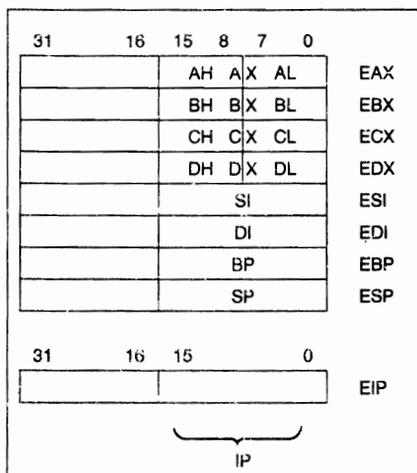

Figure 2-2. General Registers and Instruction Pointer
General Purpose Registers: The eight general purpose registers of 32 bits hold data or address quantities. The general registers, Figure 2-2, support data operands of 1, 8, 16, 32 and 64 bits, and bit fields of 1 to 32 bits. They support address operands of 16 and 32 bits. The 32-bit registers are named EAX, EBX, ECX, EDX, ESI, EDI, EBP, and ESP.
The instruction pointer, Figure 2-2, is a 32-bit register named EIP. EIP holds the offset of the next instruction to be executed. The offset is always relative to the base of the code segment (CS). The lower 16 bits (bits 0-15) of EIP contain the 16-bit instruction pointer named IP, which is used by 16-bit addressing.